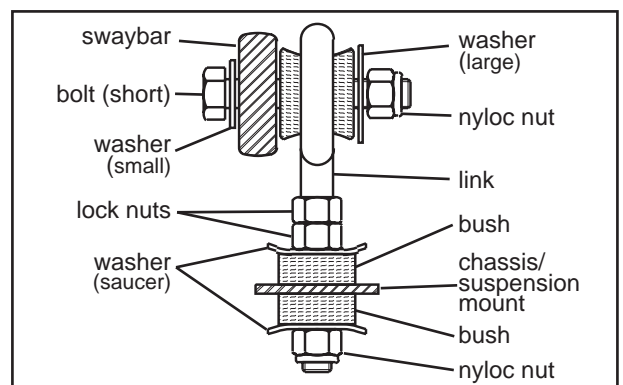

Fig 2 - EARLY production, without spacer.
*For EARLY production models, as shown in Fig. 2*